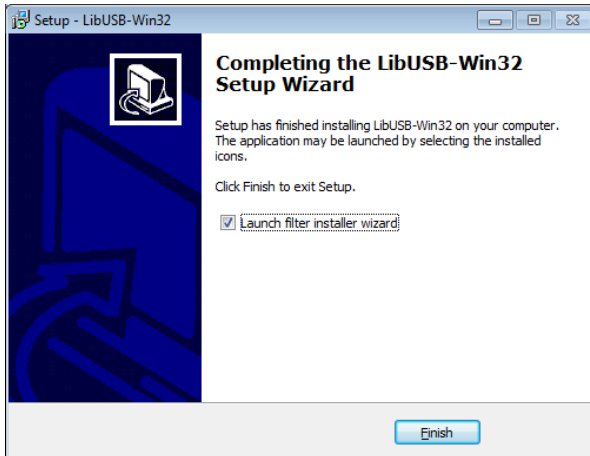

Figure 5.1.
2. Then run **libusb-win32-devel-filter-1.2.6.0.exe**, which can be found in the folder '**<grmon-ver>/share/grmon/**', where **<grmon-ver>** is the path to the extracted win32 or win64 folder from the the GRMON archive. This will install the libusb filter driver tools. Step through the installer dialog boxes as seen in Figure 5.1 until the last dialog. The **libusb-win32-devel-filter-1.2.6.0.exe** installation is compatible with both 64-bit and 32-bit Windows.